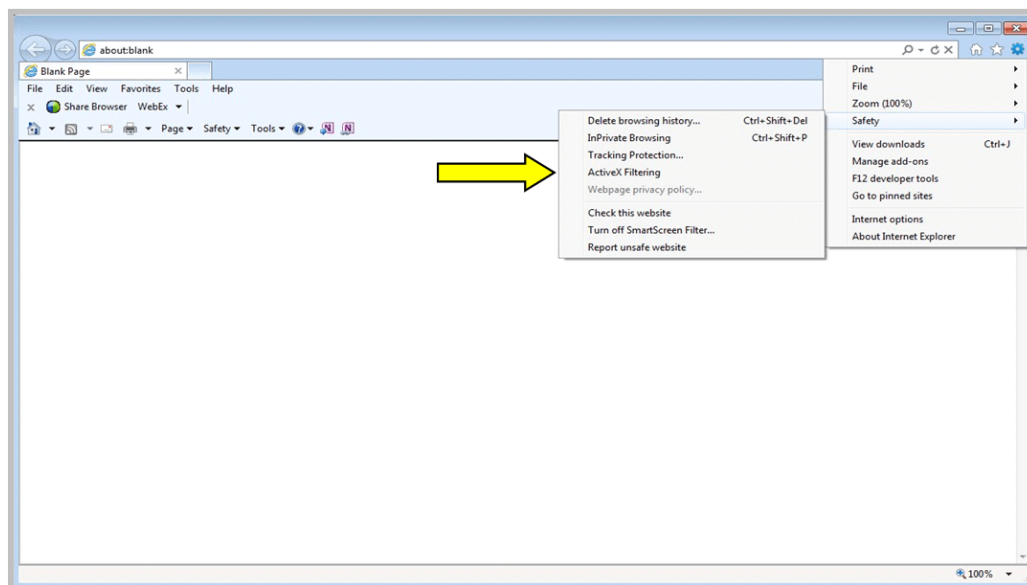

Figure 5-12: Clearing ActiveX Filtering in Internet Explorer 9
- c. Clear the setting for ActiveX Filtering, as shown in Figure 5-12.